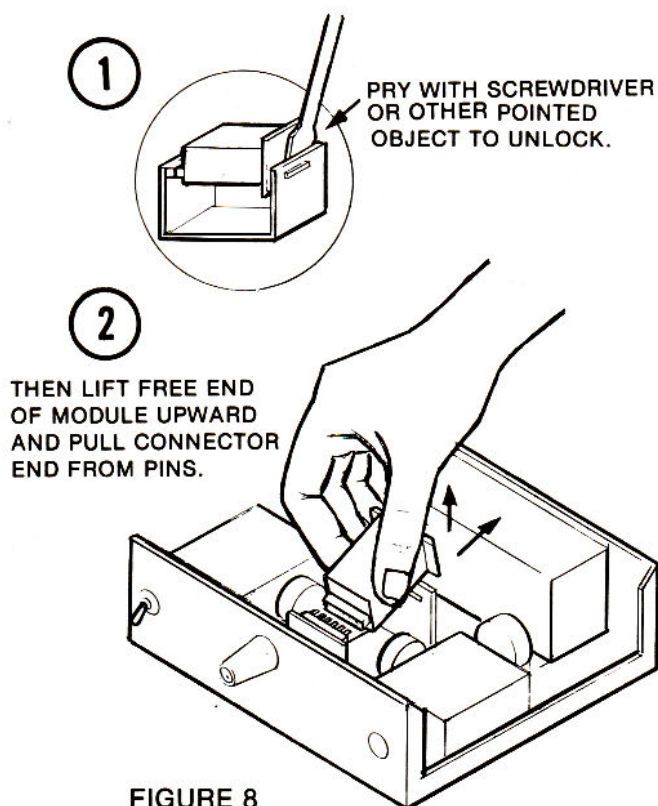

FIGURE 8
4. Insert a small screwdriver or other pointed object between the R.F. module and locking bracket. (Fig. 8)